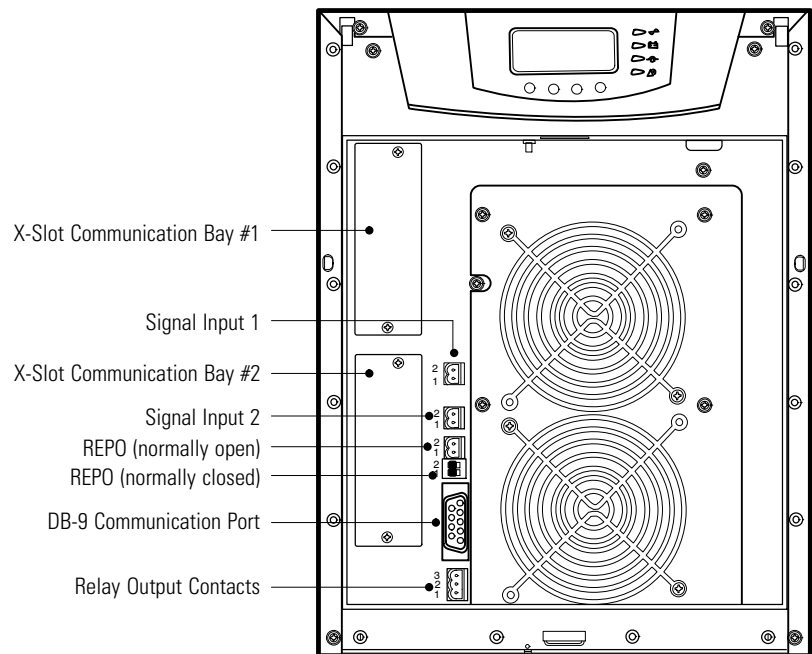
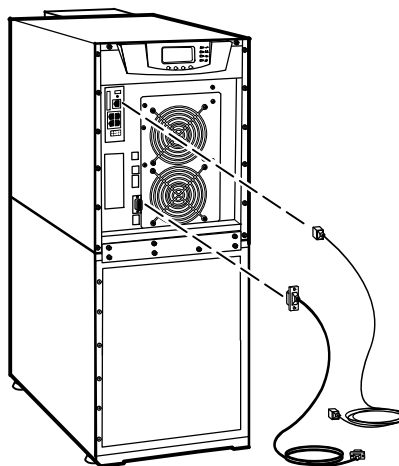
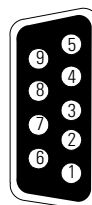

Figure 36. Communication Options and Control Terminals
Figure 38. Installing Communication Cables
Figure 41. Communication Port
Figure 36 shows the location of the communication options and control terminals on the UPS.
2. Install the appropriate X-Slot card and/or necessary cable(s) into the top cabinet (see Figure 36 and Figure 38).
The cable pins are identified in Figure 41 and the pin functions are described in Table 6. See Figure 36 on page 49 for the communication port location.
See Figure 36 on page 49 for the location of the two X-Slot communication bays.
If the use of normally-closed REPO operation is desired, replace the connector with a normally-closed external switch (see Figure 36 on page 49).
If the use of normally-open REPO operation is desired, connect a normally-open external switch (see Figure 36 on page 49).
The UPS incorporates a programmable relay output with potential free contacts for remote alarm indications (see Figure 36 on page 49). An additional four relay outputs can be obtained with the X-Slot compatible Relay Interface Card.
The UPS incorporates two programmable signal inputs (see Figure 36 on page 49). Use of non-polar (relay) control input is recommended. The pins must be shorted with maximum resistance of 10 ohm in order to activate the specific input.